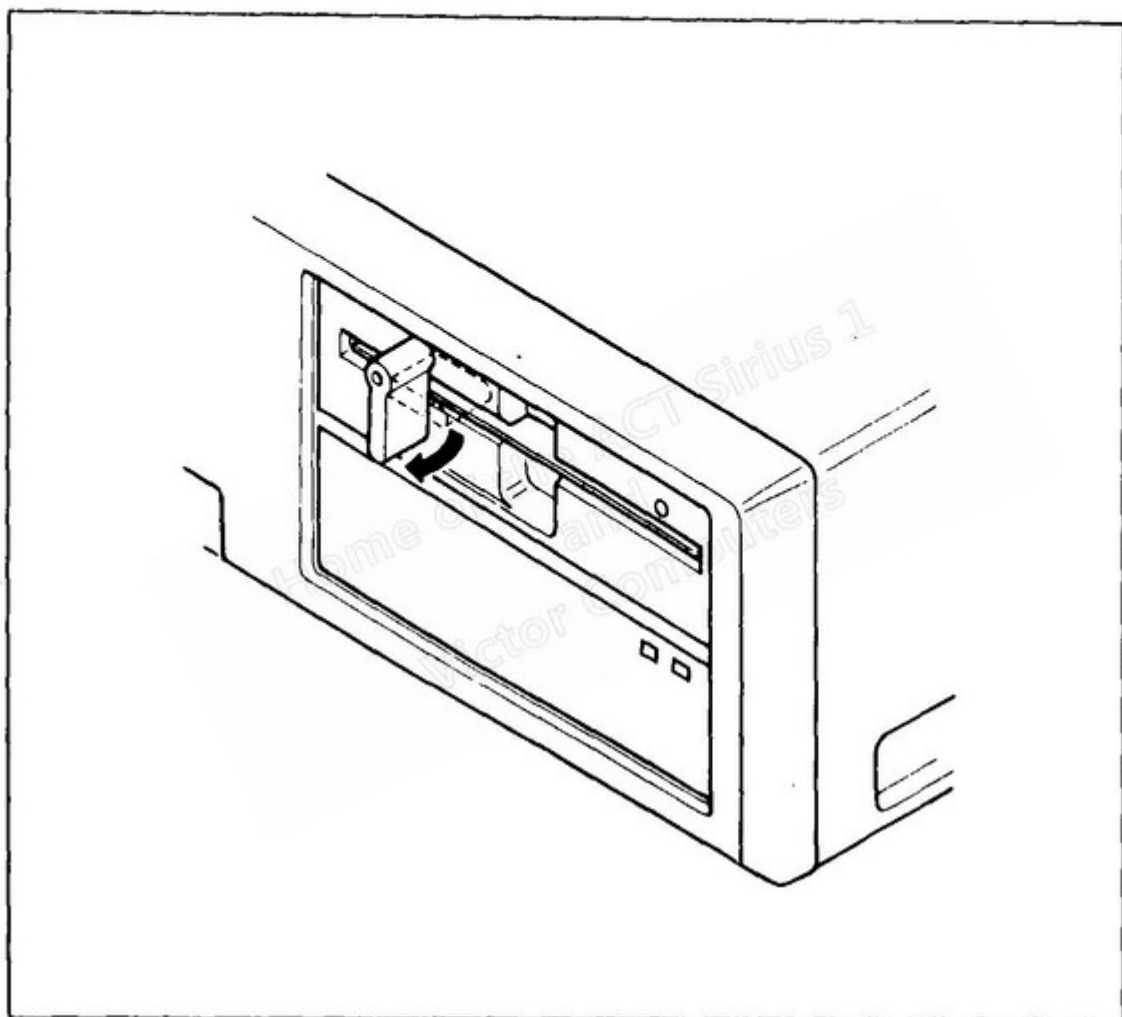

Figure 1-9: Locking the Floppy Disk Drive
8. While the power-on diagnostics are in progress, turn the disk drive latch clockwise to the locked position, as shown in Figure 1-9.